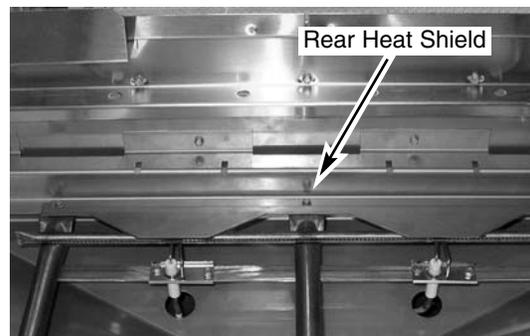

Fig 19
23. Reattach the rear heat shield before attaching the front heat shield to be sure the burners remain over the valves (Fig. 19).